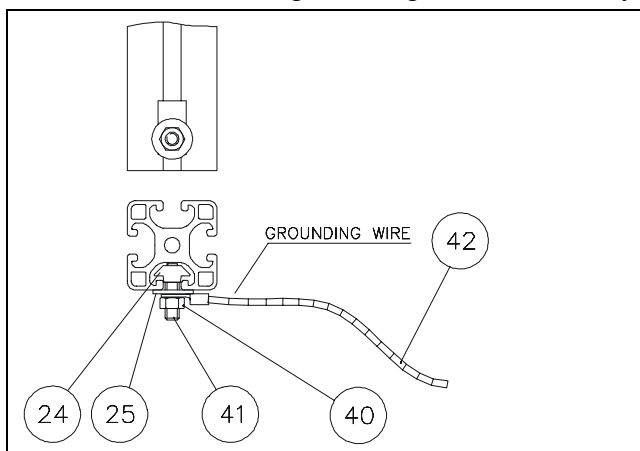

Figure 21: Grounding Wire
9. See Figure 21. Connect the grounding wire to the slotted aluminum frame of the welding booth. Then connect the grounding wire to a nearby grounding point.